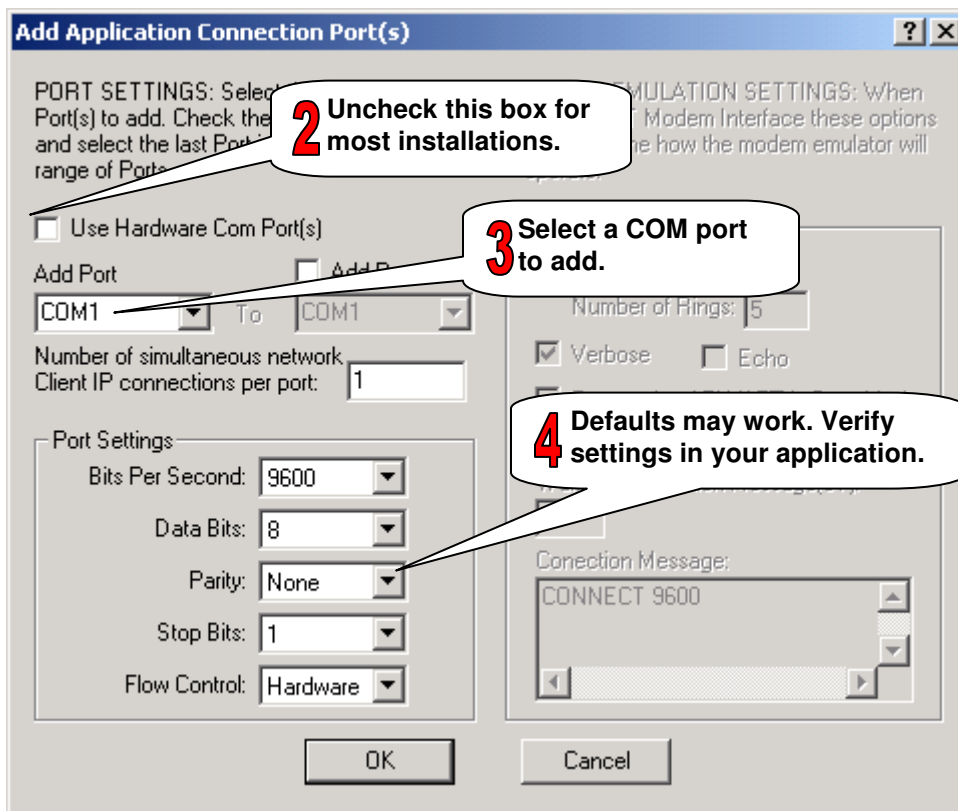

Figure 17 – InvisiConnect™ Configuration – COMs for Applications
1. Click on <Add> in the Application Program Port Configuration section to add a COM (communications) port to InvisiConnect™. Refer to Figure 17 to complete the following steps.